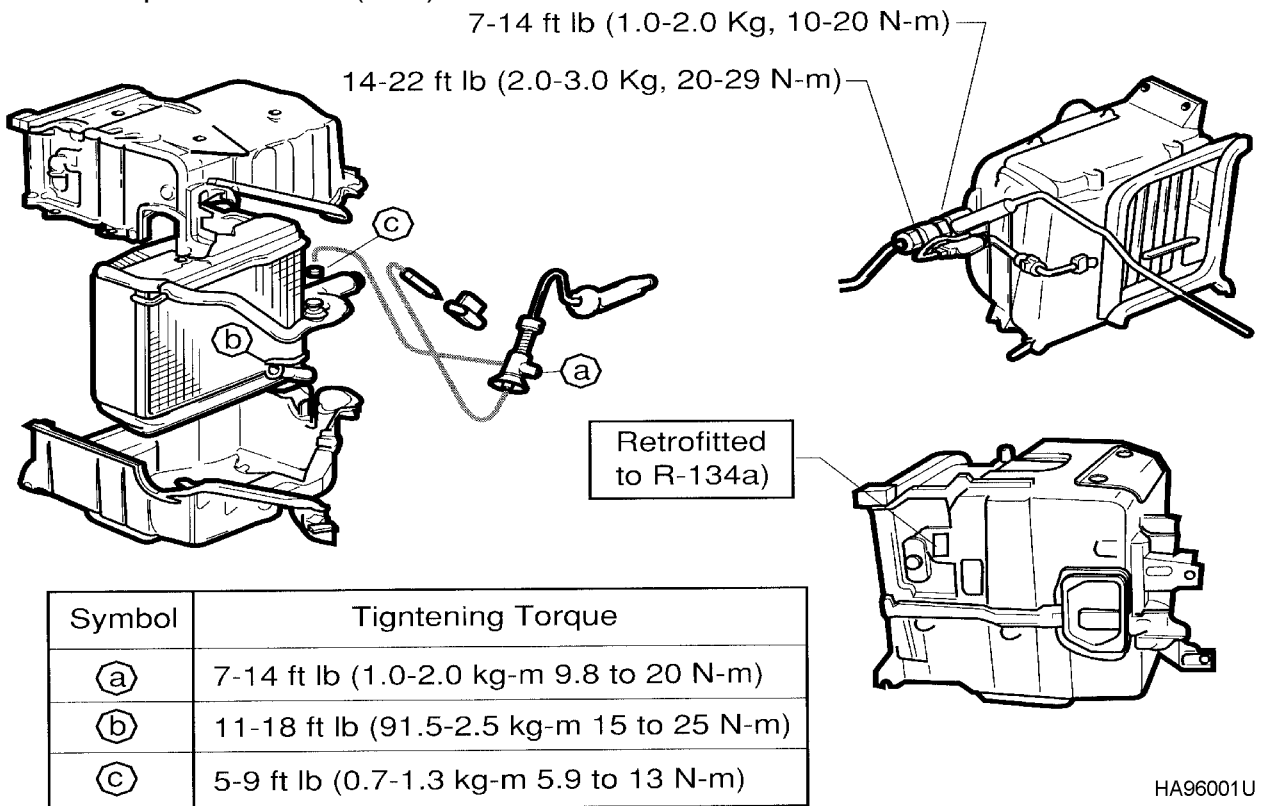

Figure 2
30. Affix the "Retrofitted to R-134a" label to the evaporator case in a visible location. (Refer to Figure 2).